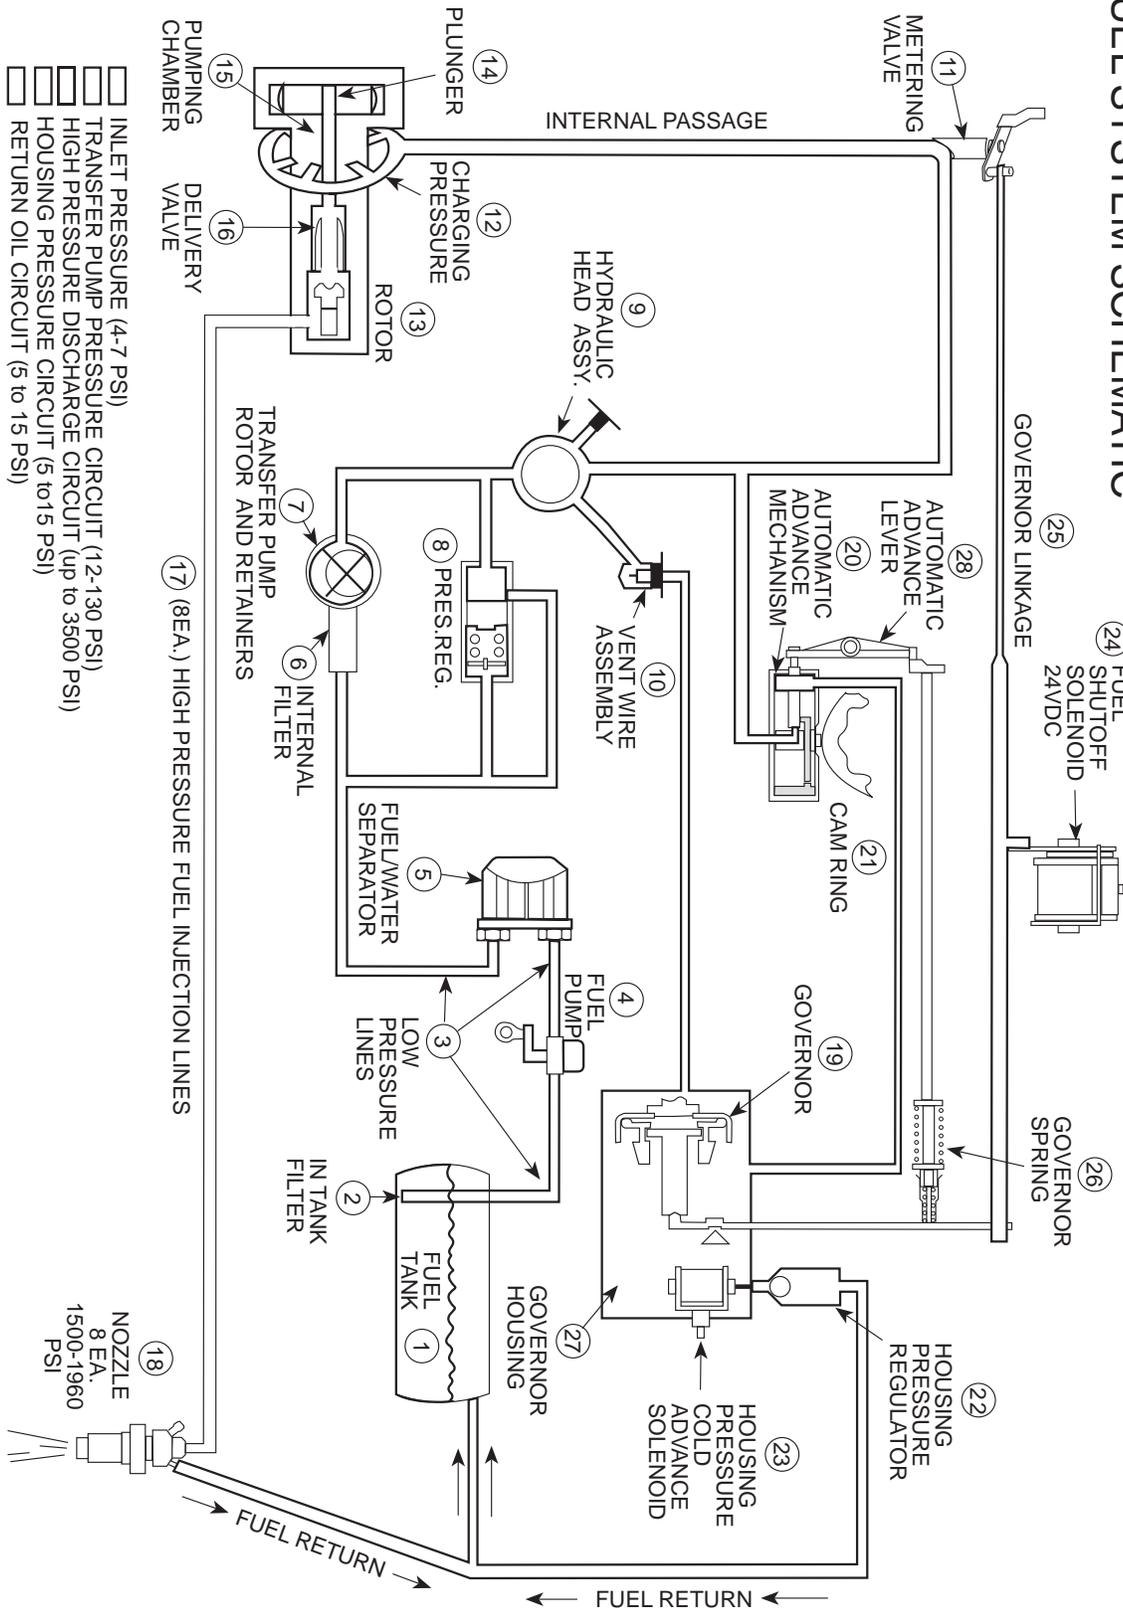

Figure 3-2. Fuel System Schematic.
H. FUEL SYSTEM FLOW SCHEMATIC (Figure 3-2)